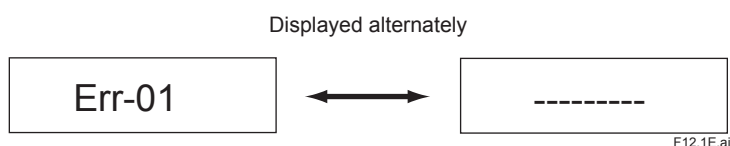
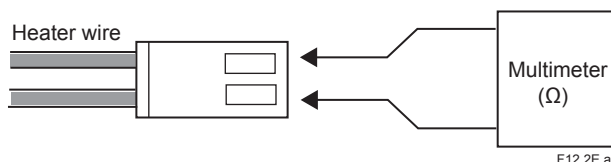

Figure 12.1
Figure 12.2
- (1) Stops the supply of power to the heater in the detector to insure system safety.
- (2) Causes an error indication in the display to start blinking to notify of an error generation (Figure 12.1).
- (3) Sends an output contact if the error is set up for "Output contact setup" for that contact (refer to Section 8.4, "Output Contact Setup").
- (4) Changes the analog output status to the one set in "Output hold setting" (refer to Section 8.2, "Output Hold Setting").
When the display shown in Figure 12.1 appears, pressing the error indication brings up a description of the error (Figure 12.2). The content of errors that are displayed include those shown in Table 12.1.
- 5) Remove the probe to gain access to the two connectors (four connectors for the optional automatic calibration unit), as indicated in Figure 12.2. Check these connectors are properly connected.
- (1) Turn off the power to the analyzer.
- (2) Remove the probe from the analyzer. Also remove all the connectors between the converter and probe. Measure the resistance of the heater wire (yellow wire) from the probe as indicated in Figure 12.2. The heater assembly is normal if the resistance is lower than about 90Ω. If the resistance is higher than that value, the heater assembly may be defective. In this case, replace the heater assembly (refer to Section 11.1.3, "Replacement of the Heater Assembly").